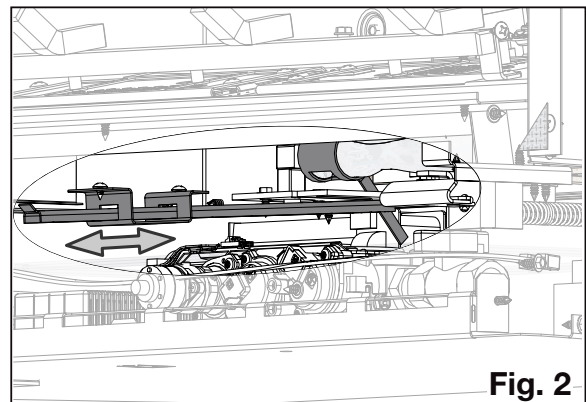

Fig. 2
3. Slide forwards to close the air shutter and slide backwards to open (**Fig. 2**).